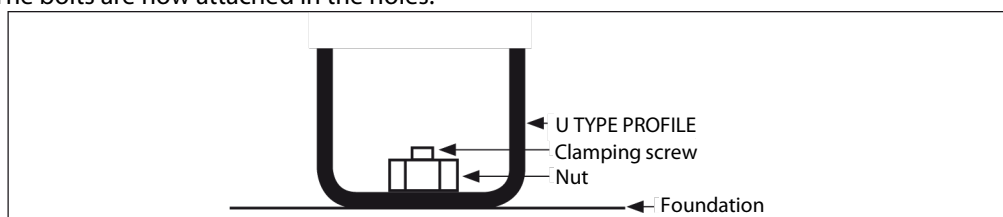

Figure 02
- Fit the U formed sections to the threaded rods (see figure 02) of the anchoring studs and then bolt the whole assembly together.